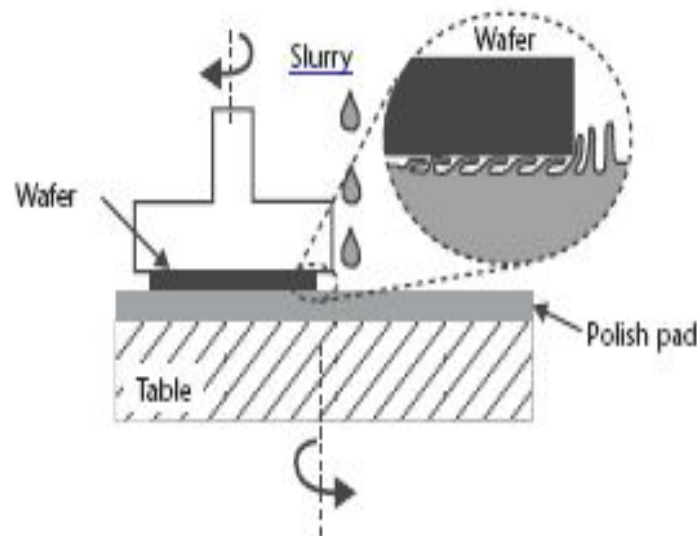

Figure 3.17 Illustration of CMP.
- A wheel with a felt-like (фетровый) texture polishes the wafer surface using a slurry containing fine silica or other hard particles in a very dilute alkaline solution (see Figure 3.17).